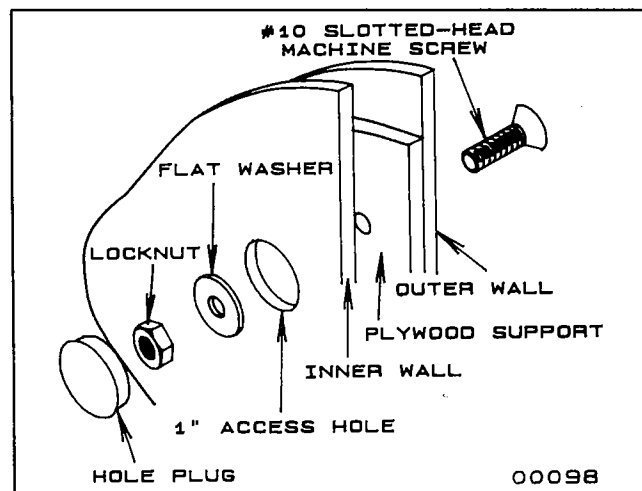

Figure 11. Access Hole and New Hinge Fastener
2. From the outside, using an extra-long #10 or 3/16 drill bit, line drill through the screw holes, outer wall, and plywood support and inner wall (figure 11).
3. From the inside, using the holes just drilled as pilot holes, cut 1-inch access holes through the inner wall of the door with a hole saw (figure 11).